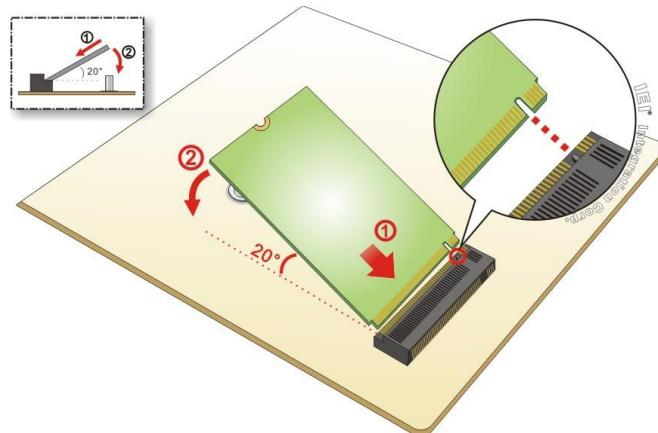

Figure 4-9: Inserting the M.2 Module into the Slot at an Angle
Step 3: Line up the notch on the module with the notch on the slot. Slide the M.2 module into the socket at an angle of about 20° (**Figure 4-9**).
Step 2: Line up the notch on the M.2 module with the notch on the slot. Slide the M.2 module into the socket at an angle of about 20°. (See **Figure 4-9**)